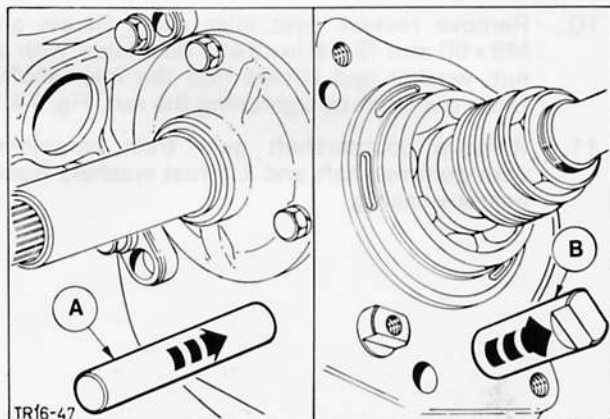

Fig. 71. Push out countershaft with Special Tool No. 16-003
7. Drive countershaft out of press fit from front **towards the rear** using Special Tool No. 16-003, Fig. 71. Lower countershaft gear train.